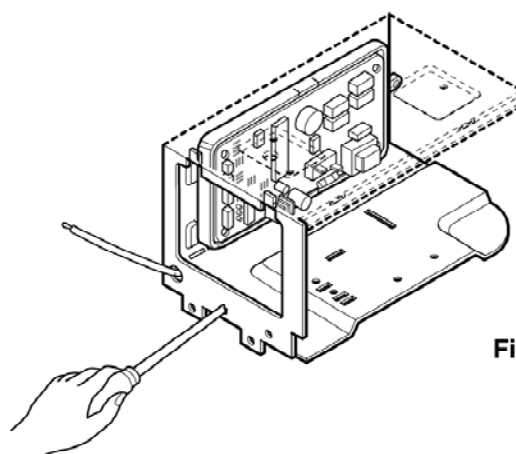

Figure 29
6. Re-install the components by refereing to the above removal procedure above. (See Figure 29)